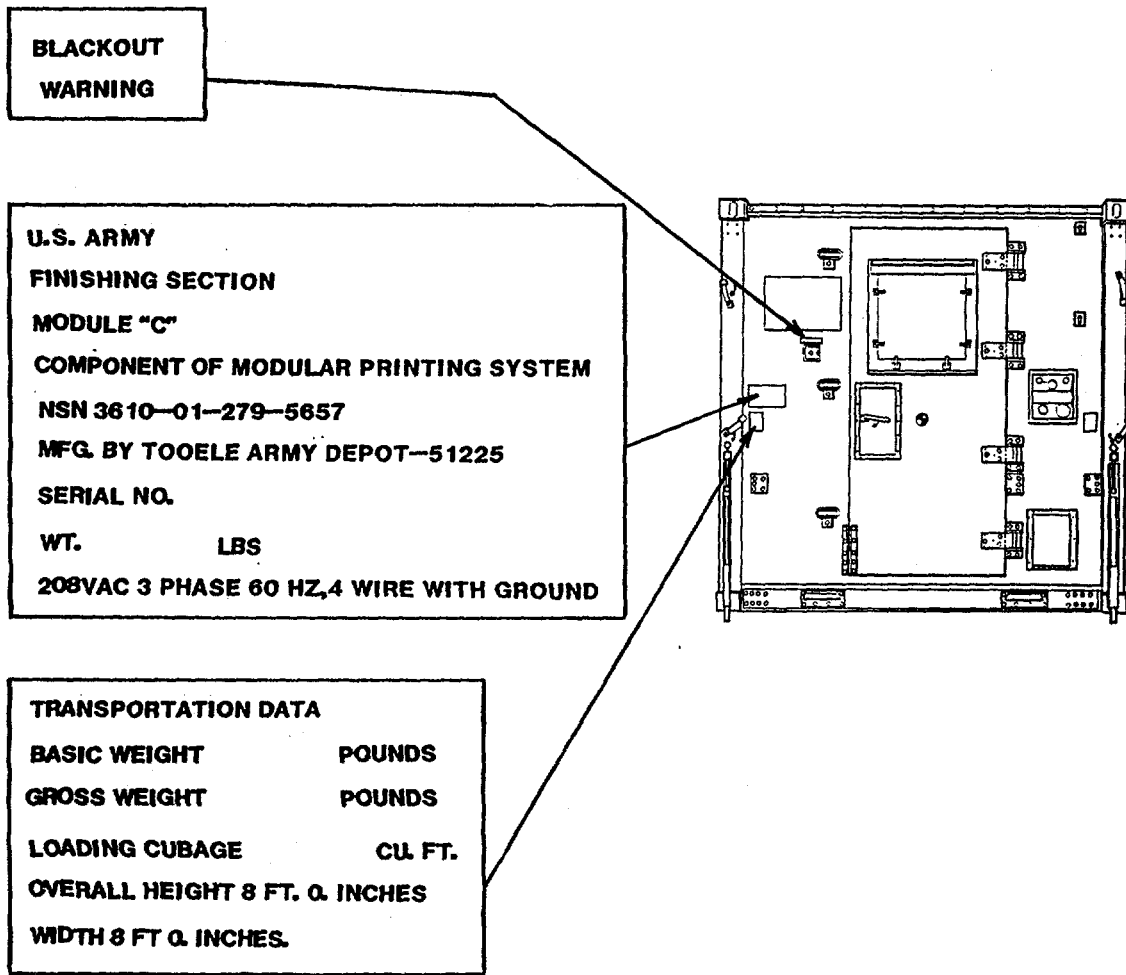

Figure 2-26. External Shelter Decals and Data Plates
- i. External Shelter. Figure 2-26 identifies decals and data plates added to the outside of the shelter.